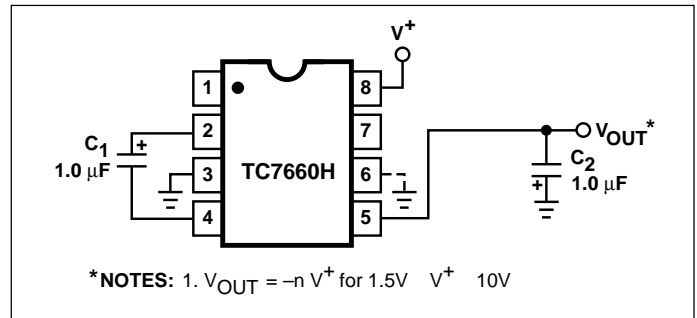
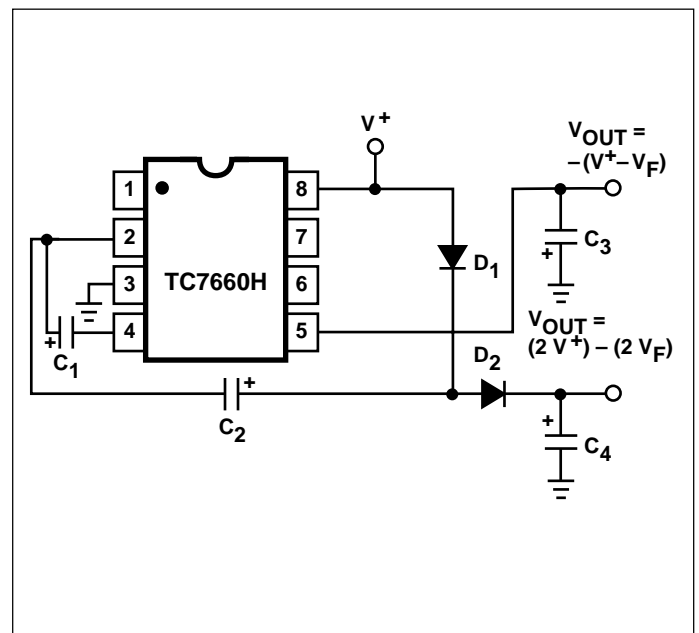

Figure 3. Simple Negative Converter
Figure 8. Combined Negative Converter and Positive Multiplier
Figure 3 shows typical connections to provide a negative supply where a positive supply is available. A similar scheme may be employed for supply voltages anywhere in the operating range of +1.5V to +10V, keeping in mind that pin 6 (LV) is tied to the supply negative (GND) only for supply voltages below 3.5V.
The output characteristics of the circuit in Figure 3 are those of a nearly ideal voltage source in series with 70Ω. Thus, for a load current of -10 mA and a supply voltage of +5V, the output voltage would be -4.3V.
Figure 8 combines the functions shown in Figures 3 and 8 to provide negative voltage conversion and positive voltage multiplication simultaneously. This approach would be, for example, suitable for generating +9V and -5V from an existing +5V supply. In this instance, capacitors C_1 and C_3 perform the pump and reservoir functions, respectively, for the generation of the negative voltage, while capacitors C_2 and C_4 are pump and reservoir, respectively, for the multiplied positive voltage. There is a penalty in this configuration which combines both functions, however, in that the source impedances of the generated supplies will be somewhat higher due to the finite impedance of the common charge pump driver at pin 2 of the device.